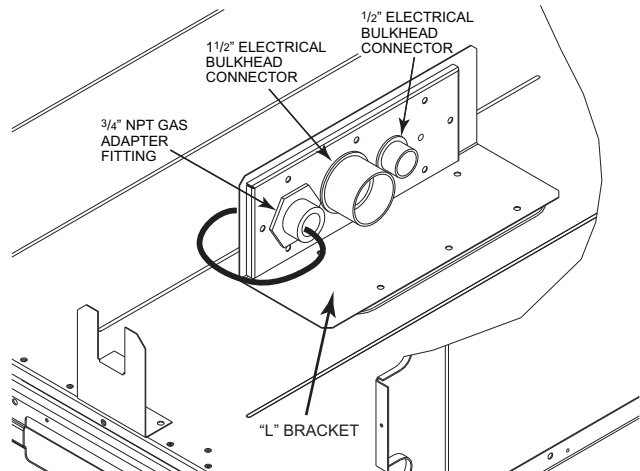

Fig. 28 — Thru-Base Connection Fittings (Size 16 Shown)
FACTORY-OPTION THRU-BASE GAS CONNECTIONS (SIZE 16) — This service connection kit consists of a 3/4-in. NPT gas adapter fitting (stainless steel), a 1/2-in. electrical bulkhead connector and a 1 1/2-in. electrical bulkhead connector, connected to an “L” bracket covering the embossed (raised) section of the unit basepan in the condenser section. See Fig. 28.
1. Remove the “L” bracket assembly from the unit (see Fig. 28).